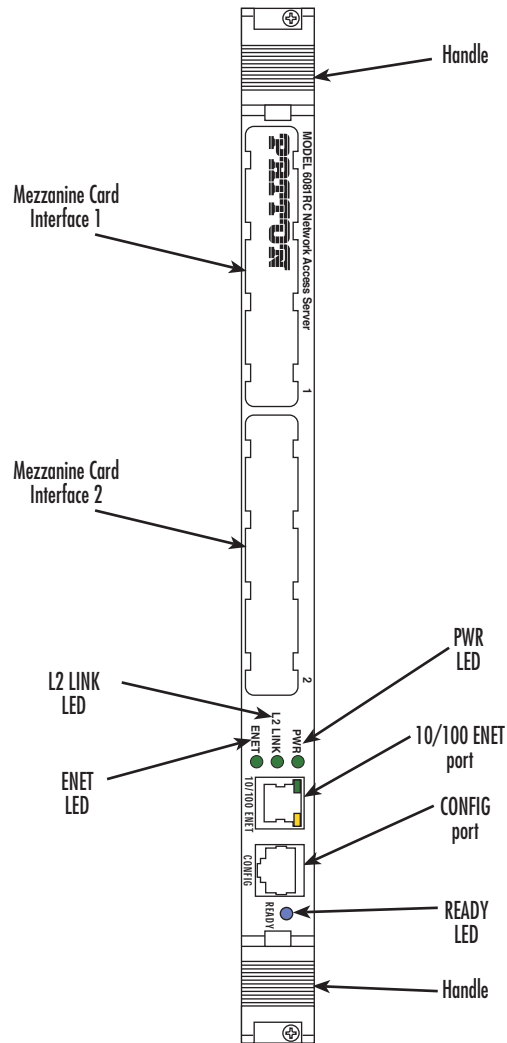

Figure 2. Model 6081RC front panel
- One front panel 10/100Mbps Ethernet port (see figure 2) with two LEDs
- One front-panel RS232 console port (see figure 2)
- Three front-panel LEDs (see figure 2)